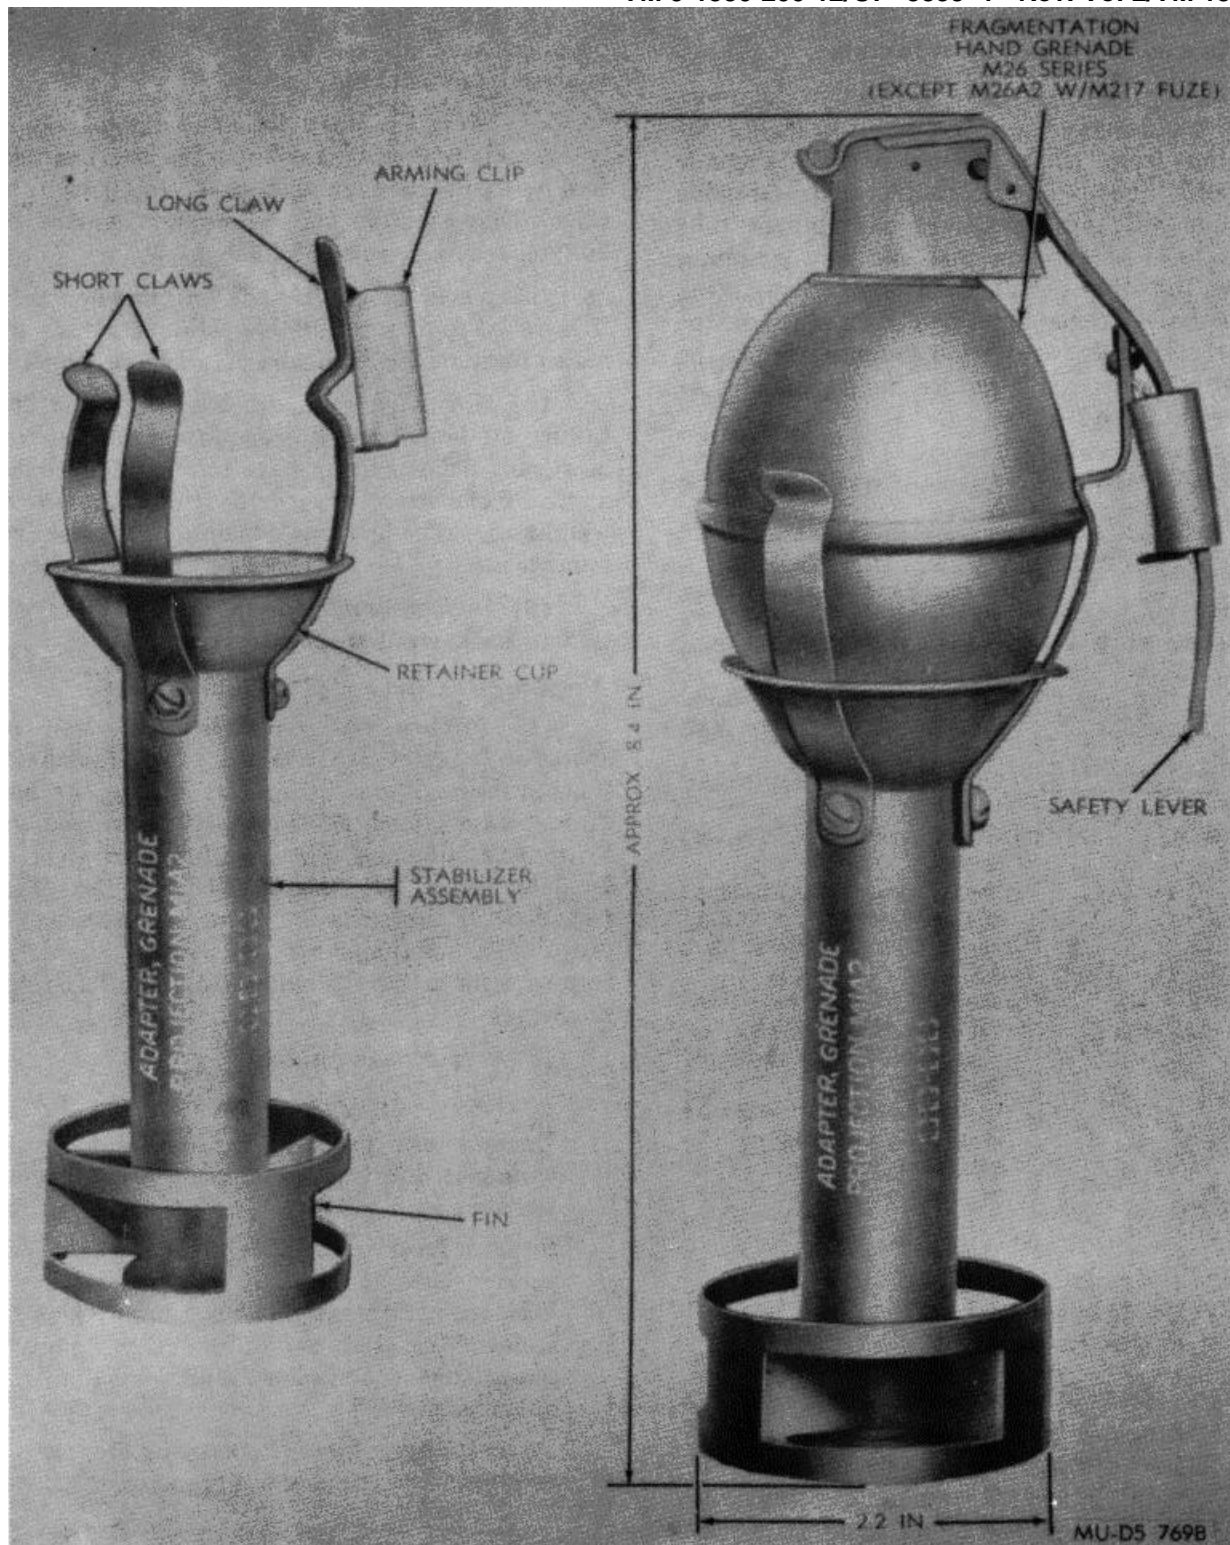

Figure 2-9. Grenade projection adapter M1A2.
(1) *Applications.* Grenade Projection Adapters M1 Series are used to adapt fragmentation, practice, illuminating and WP smoke hand grenades for launching from a rifle equipped with a grenade launcher. Three different models are available: the M1, the M1A1 and the M1A2 (fig. 2-9). Fragmentation hand grenades can be projected a maximum of 160 meters when fired from a rifle using Grenade Projection Adapters M1 Series.